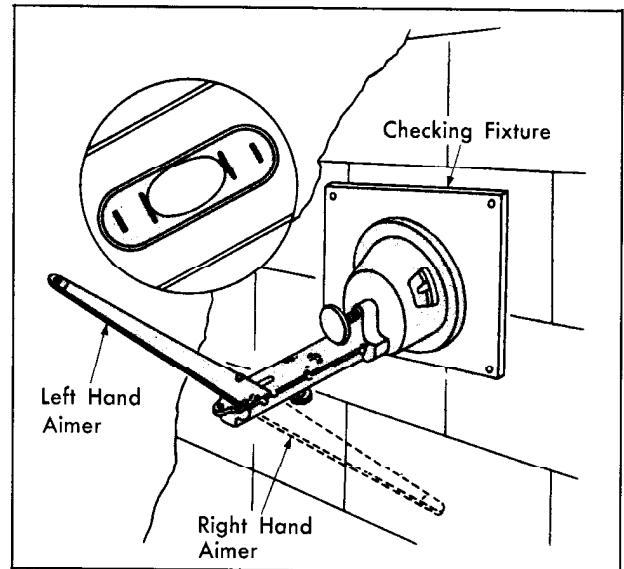

Fig. 13-89 Checking Vertical Calibration
- With the numeral 2 in the "Down" window of the aimer, hold the aimer retaining ring against the three screws in the checking fixture and with the horizontal arm parallel to the floor as shown in Fig. 13-89. If the bubble is centered, the aimer is vertically calibrated.